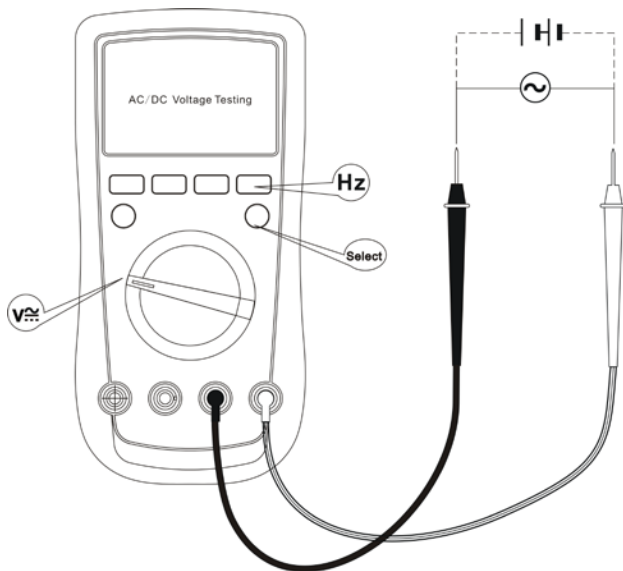

Figure 4
A. AC/DC Voltage Testing (see figure 4)